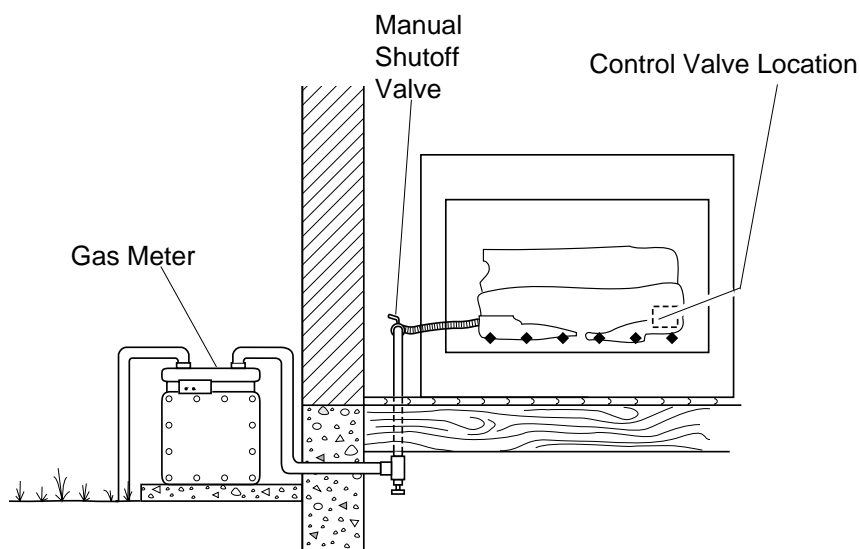

Figure 15 - Checking Gas Joints
3. Check all joints from gas meter to manual shutoff valve (see Figure 15). Apply mixture of liquid soap and water to gas joints. Bubbles forming show a leak.
4. Check all joints from manual shutoff valve to control valve (see Figure 15). Apply mixture of liquid soap and water to gas joints. Bubbles forming show a leak.